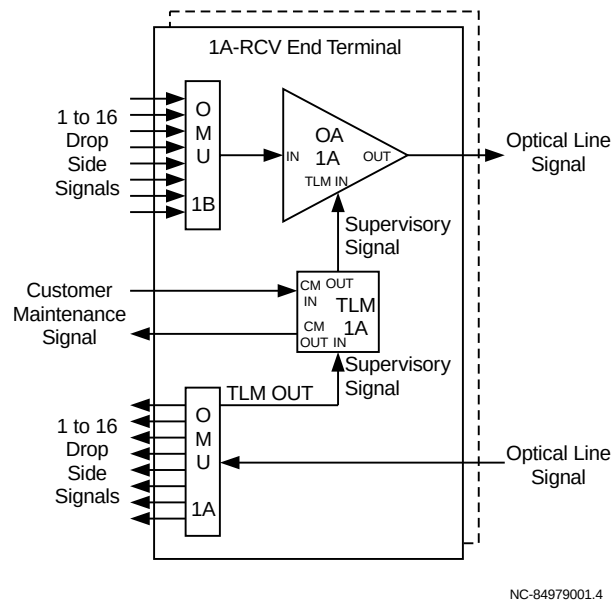

Figure 5-9. Single Optical Amplifier 1A-RCV End Terminal Transmission Block Diagram
Figure 5-9 shows a transmission block diagram of the End Terminal Shelf with a single Optical Amplifier (OA) circuit pack provisioned as a 1A-RCV end terminal.